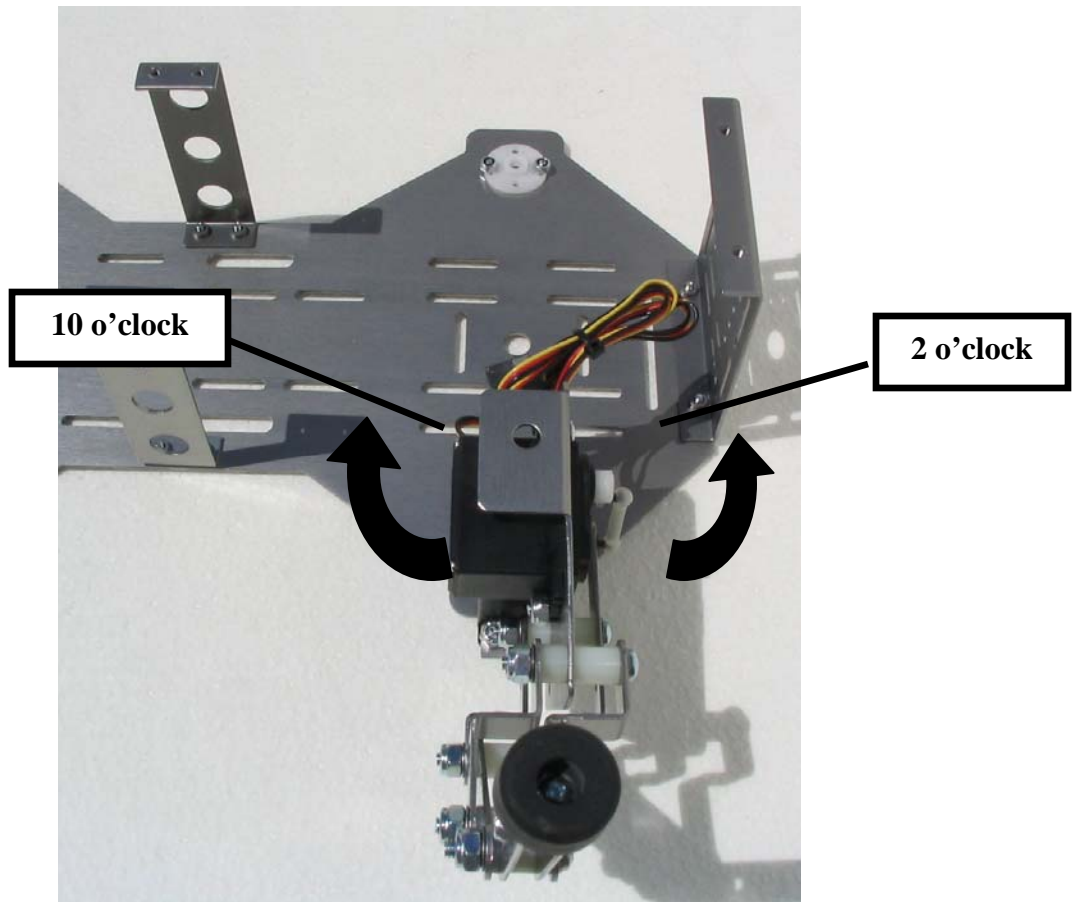

Figure 33
4. Once inserted (do not secure it with the stock servo screw yet), gently swivel and adjust the leg (taking it out of the servo arm rotating the leg clockwise or counterclockwise and then re-attaching it to the servo arm) so that it swings freely from approximately the 10 o'clock position to the 2 o'clock position as illustrated in Figure 33.